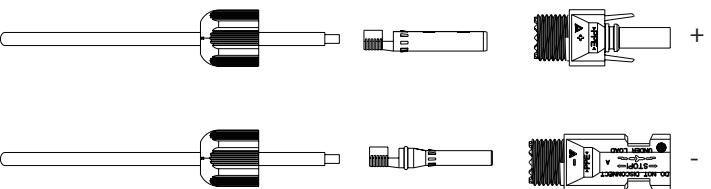

Figure 4-18
- ③ Disassemble the connector in the accessory bag, as shown in Figure 4-18: